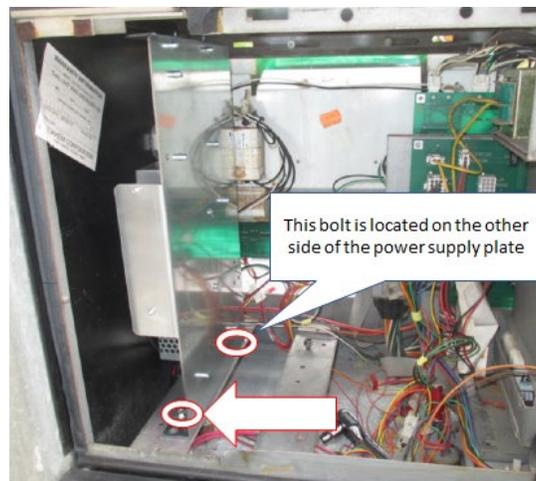

Figure 68
- 16) Loosen the Non Invenco Link power supply bracket with power supply attached by first removing the two feet mounting screws. Retain mounting screws for reinstallation. See Figure 68.